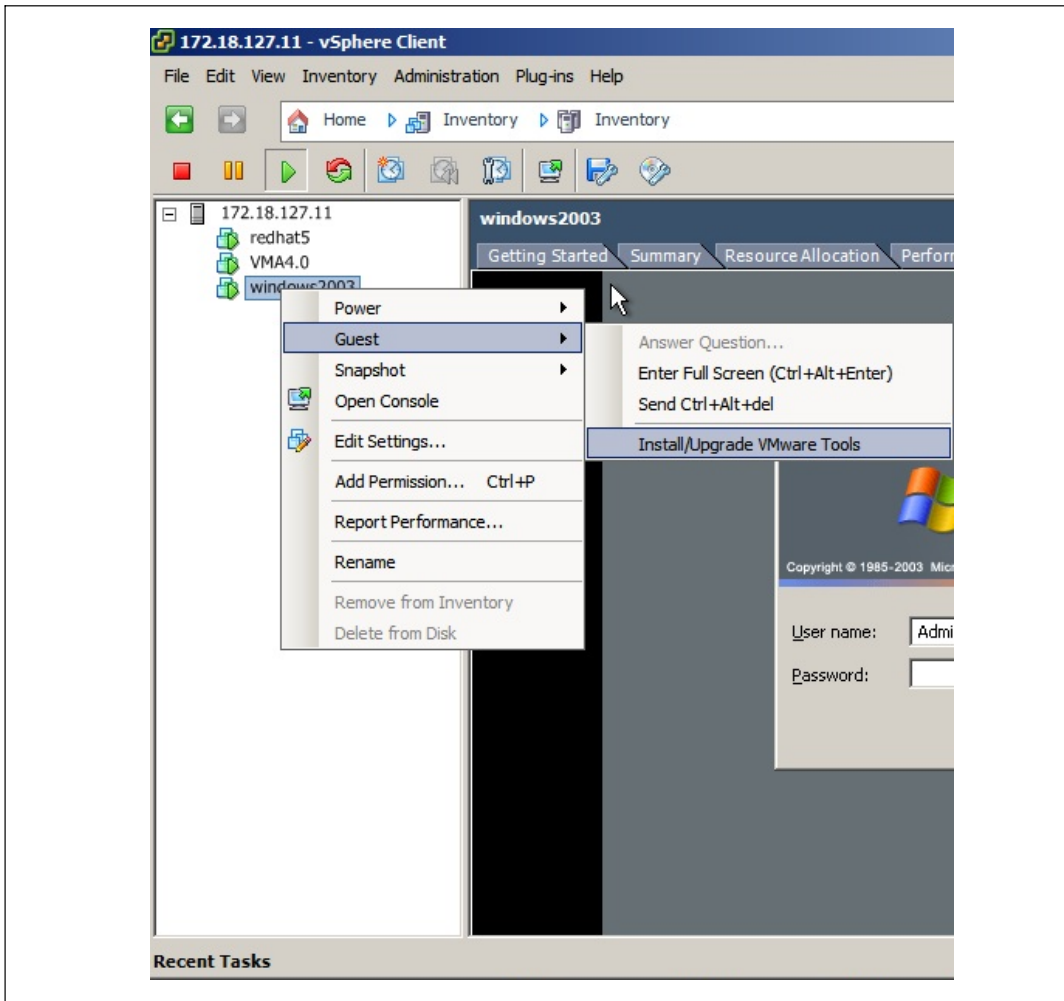

Figure 118. Virtual Machine Template Menu
- 4 Select the template name and then right-click and select **Guest>Install/Upgrade VMware Tools** from the menu. (see Figure 118.)
- 4 Select the template name and then right-click and select **Install/Upgrade VMware Tools** from the menu. (see Figure 118.)